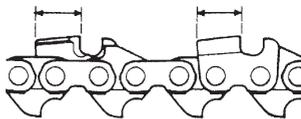

Fig. 46
- 5) Keep all cutters the same length. (Fig. 46)